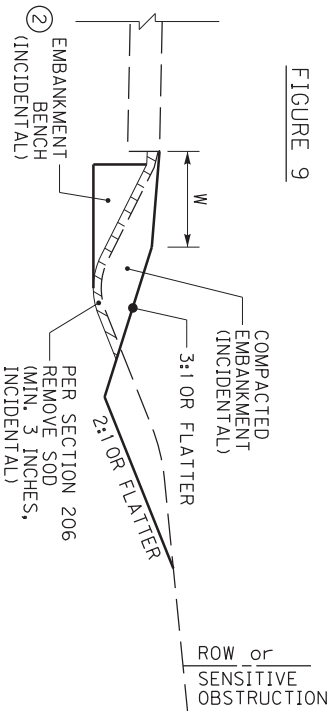

FIGURE 9
11. AS SHOWN IN FIGURE 9, IN MOST SITUATIONS, REGRADE AND RESHAPING THE ROADSIDE TO ACHIEVE THE PROPOSED SHOULDER, DITCH, AND/OR ROADSIDE DIMENSIONS WILL RESULT IN MOVING THE DITCH FURTHER AWAY FROM THE ROADWAY. IT IS DESIRED THAT DITCH FORESLOPES BE 3:1 OR FLATTER AND DITCH BACKSLOPES BE 2:1 OR FLATTER.